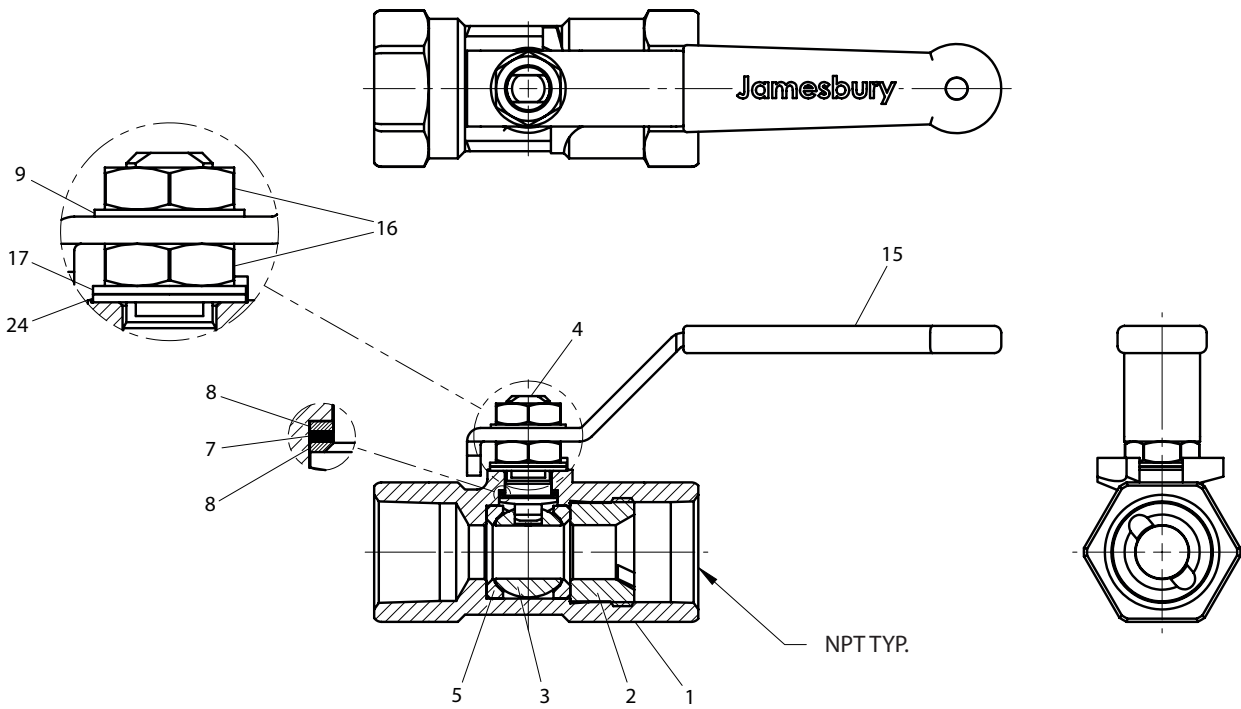

Figure 4
If the Series 33R valve handle (15) has to be removed for any reason, the handles must be remounted with the handle stop tang as shown in **Figure 4**.
Good operating procedure requires periodic observation to ensure that the valve is functioning well. The frequency of observation will depend on the application. Routine maintenance consists of tightening the lower stem nut (16) periodically to compensate for wear caused by the stem turning against the seal. Loosen the upper stem nut (16) on top of the handle (15) before tightening the lower stem nut. Retighten the upper stem nut after tightening the lower stem nut. (See **Figure 4 and Table 1**)